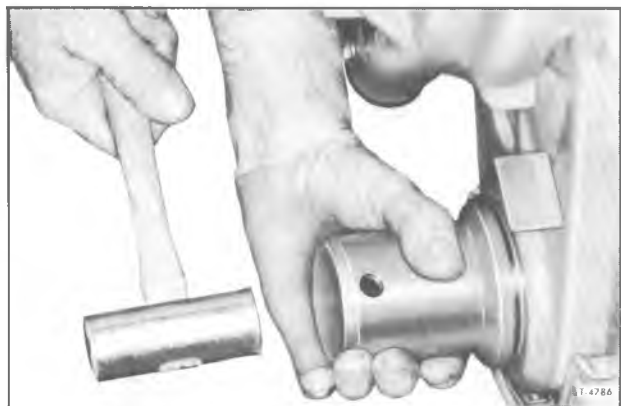

Figure 41—Installing Cover Oil Seal with Cover Installed (366 or 427 Engine Shown)
2. Install new seal so that open end of the seal is toward the inside of the cover and drive it into position with Tool (J-8340) for 350 engine, or with Tool (J-22102) for 366 and 427 engines (fig. 41).